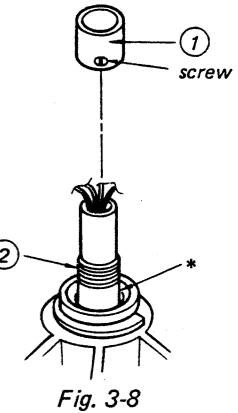

Fig. 3-8
6. Clean the portion marked * in Fig. 3-8.
7. Put fourteen cleaned steel-balls into the portion marked by * in Fig. 3-8.
8. Insert the ① (with a screw side down) and screw up the ① to the extent of ② being movable slightly up and down.
12. If not, readjust the ①.